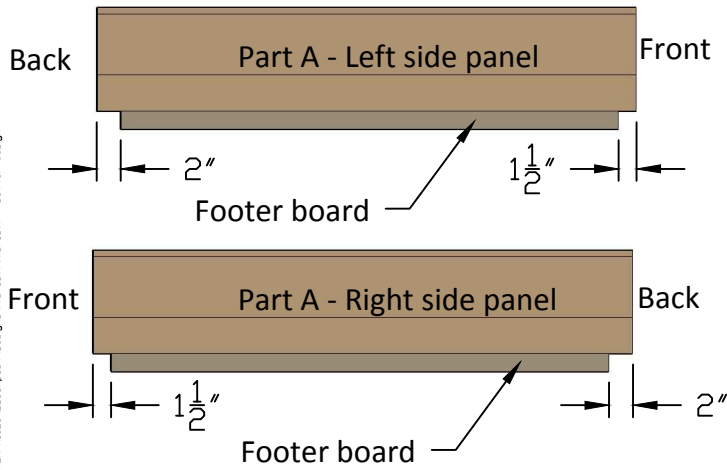

Figure 3
- Note: On both sides of the Micro-Bin, the Part A assemblies extend beyond the ends of the footer boards, 2-inches toward the rear of the Micro-Bin and 1 ½ -inches toward the front (Fig. 3, Sheet 8).
- Connect the back footer board assembly (i.e., with the two mouse holes) to the two back corner assemblies, using 2 $\frac{1}{2}$ -inch wood screws inserted through the back 2x4's. (Fig. 3 on Sheet 8).